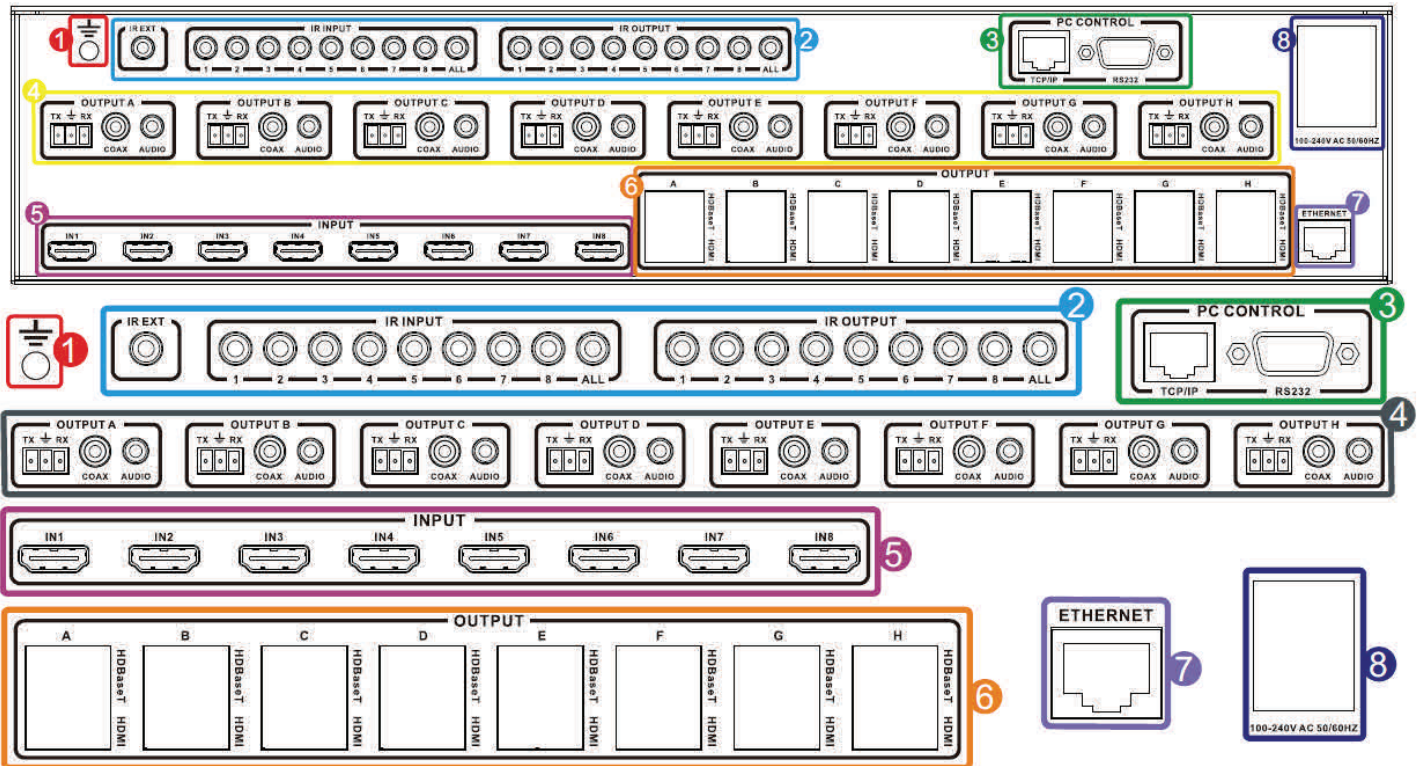

Figure 7-1
7. **Ethernet:** This slot provides Internet connectivity to the devices connected to the 8 RJ45 ports shown in Figure 7-1, section 6.